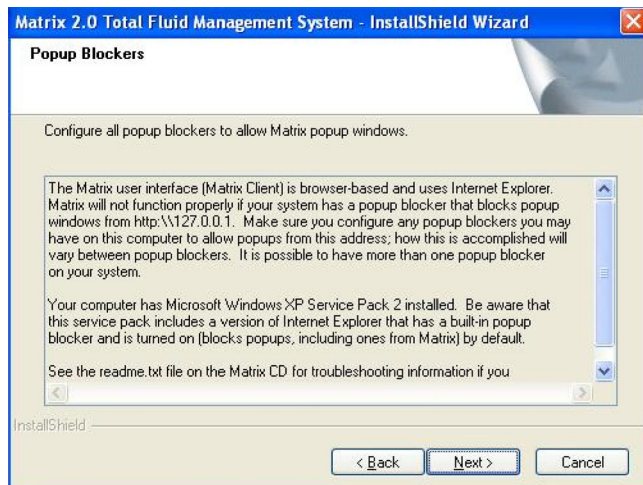

FIG. 17 Setup Path 1 - Pop-up Blockers
- You may need to make changes to pop-up blockers installed on the PC for Matrix to function properly. Read this information carefully for guidance (FIG. 17). Click **Next**.